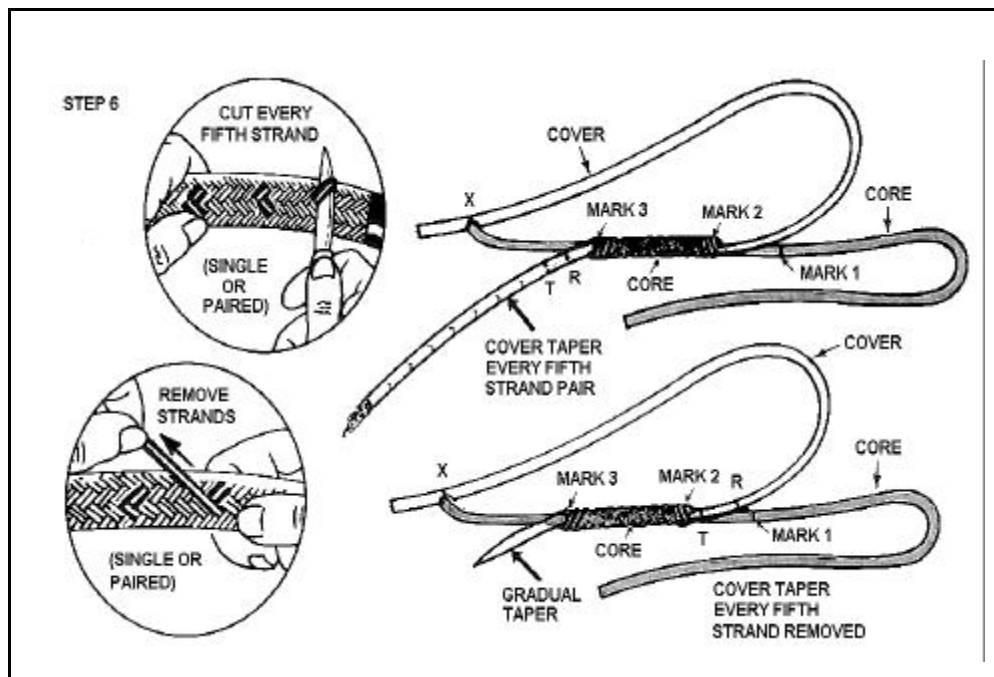

Figure 12-57. Performing the Taper
- **STEP 6 -- Performing the taper.** Make sure tape is removed from cover end. Starting with the last marked pair of cover strands toward the end, cut and pull them completely out (see Figure 12-57 insert). Cut and remove next marked strands and continue with each right and left marked strands until you reach point T. DO NOT cut beyond this point (see Figure 12-57 insert). The result should be a gradual taper ending in a point. Very carefully pull cover back through core until point T emerges from Mark 2 of core.